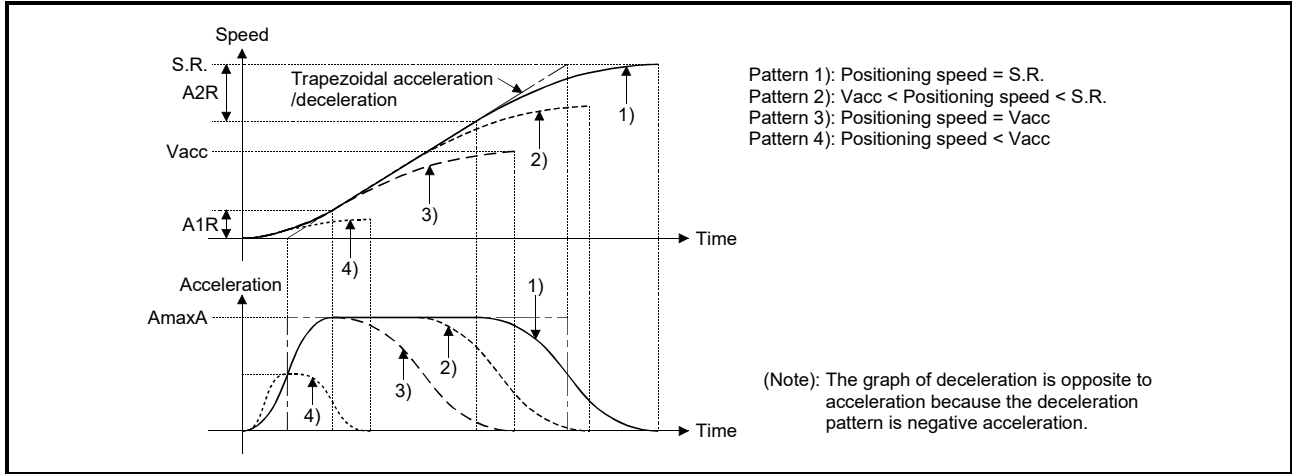

Fig.4.5 Acceleration pattern
The actual acceleration/deceleration time for each pattern (Fig.4.5 pattern 1 to 4) based on positioning speed is shown below.
(2) When the positioning speed is slower than the speed limit value, adjust the acceleration in the following procedure.
- (a) Shorten time of maximum acceleration section. (Fig.4.5 Pattern 2, 3)
- (b) Reduce maximum acceleration and acceleration increase/decrease time of acceleration section 1 and 2. (Fig.4.5 Pattern 4)